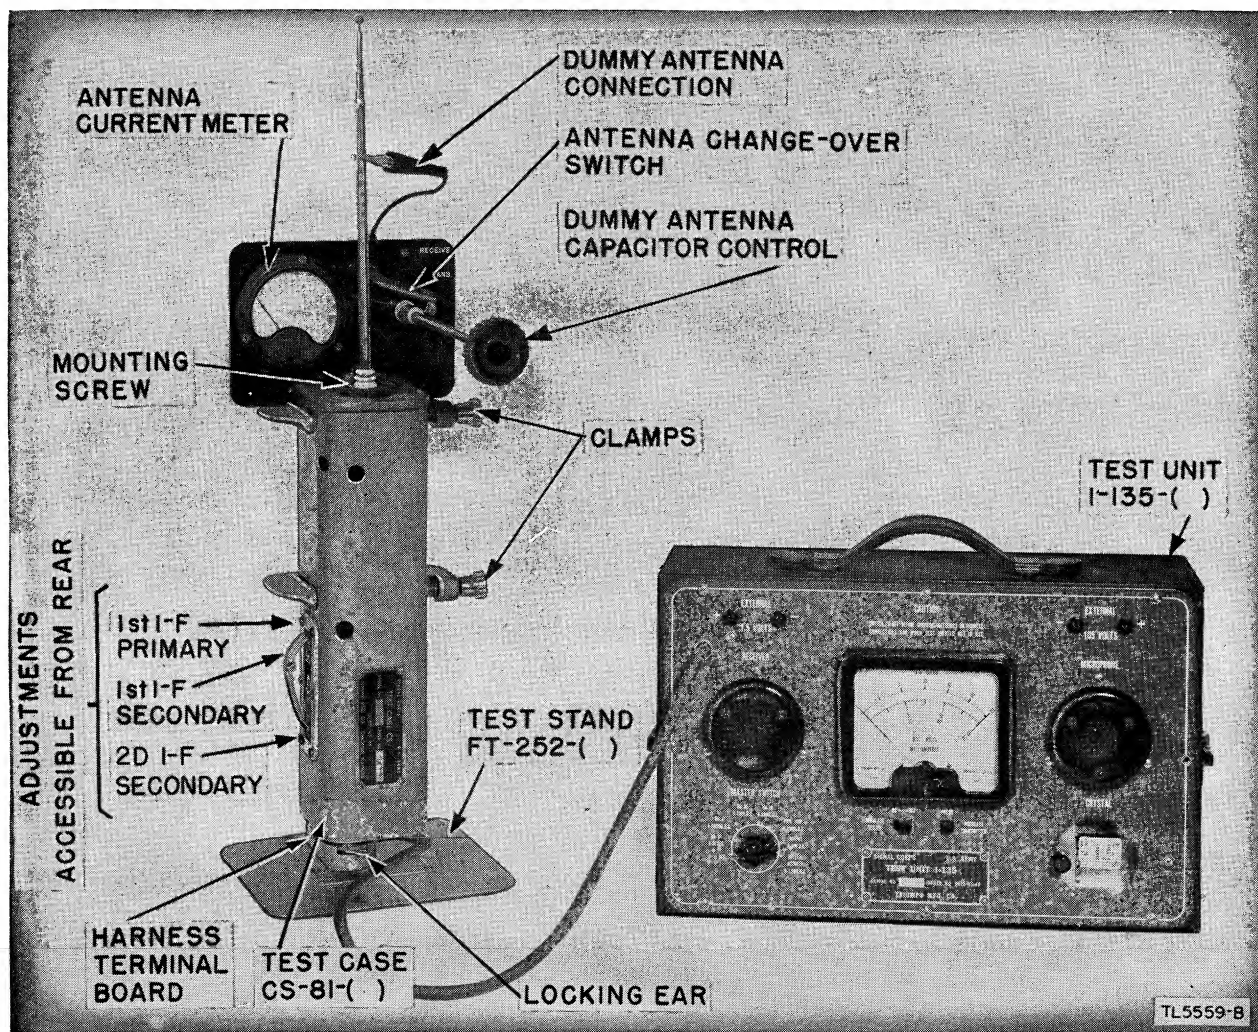

Figure 61. Test Equipment 1E-17-(), set up.
b. COMPONENTS. Test Equipment IE-17-() consists of the following components (fig. 61):